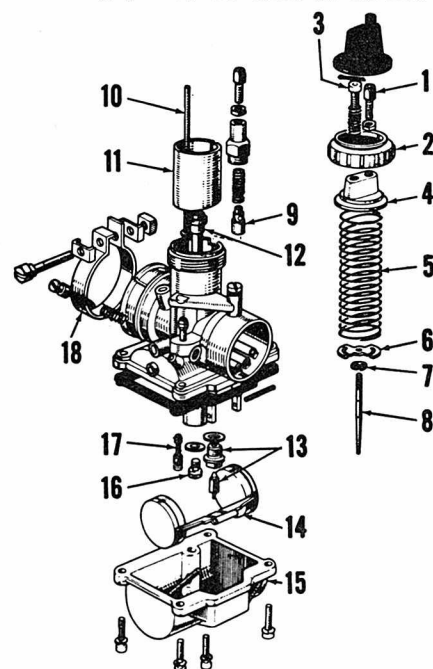

Fig. K6-1—Exploded view of Mikuni sliding valve carburetor used on the Mach III.
**CARBURETORS.** Three Mikuni sliding valve carburetors are used on both models. Cable guides on carburetor tops should be adjusted so that all three throttle slides start to move at the same instant. Initial setting of pilot air screws (18—Fig. K6-1) is 1¼ turns out on 500cc models and 1½ turns out on 350cc and 750cc models. Adjust throttle stop screws (3) to provide the idle speed of 1500-1800 RPM. Check for equal backpressure from tail pipes on completion of carburetor adjustments. Refer to Fig. K6-1 and the following for H1 carburetor specifications: